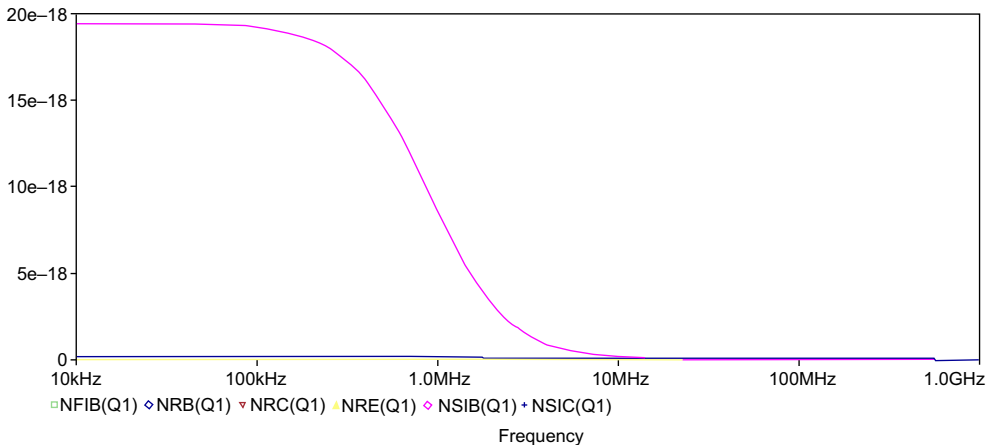

FIGURE 14.6
6. Delete the resistor traces and add the noise traces for Q1: NFIB(Q1), NRB(Q1), NRC(Q1), NRE(Q1), NSIB(Q1), NSIC(Q1) (Figure 14.6). You should see that the greatest noise contribution is from the shot noise associated with the base current, NSIB(Q1), which exhibits a low pass frequency response.